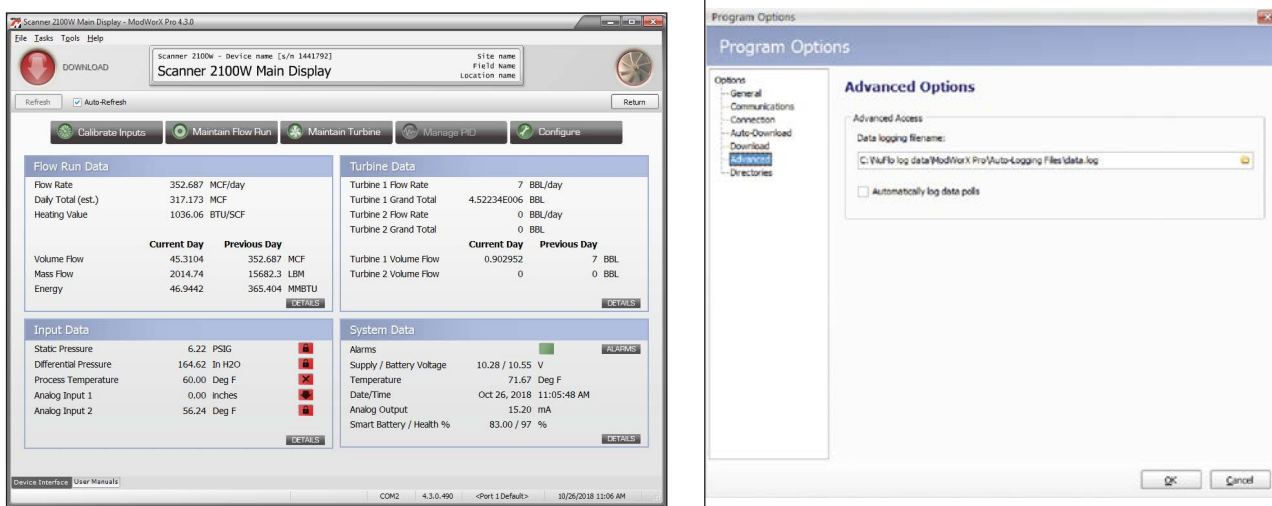

Figure A.23
1. Click *Tools>Options* in the task bar (Figure A.23).